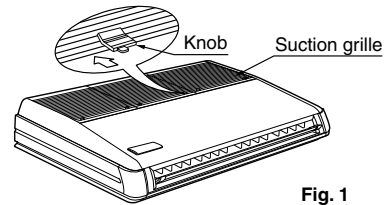

Fig. 1
- (1) Relation of holes for indoor unit, suspension bolt position, piping and wiring.**
- (2) Make holes for suspension bolts, refrigerant and drain pipe, and wire.**
(3) Remove the parts from the indoor unit.
- Slide the locking knobs (x2) on the suction grille inward (direction of arrows) and lift upwards. **(Refer to Fig. 1)**